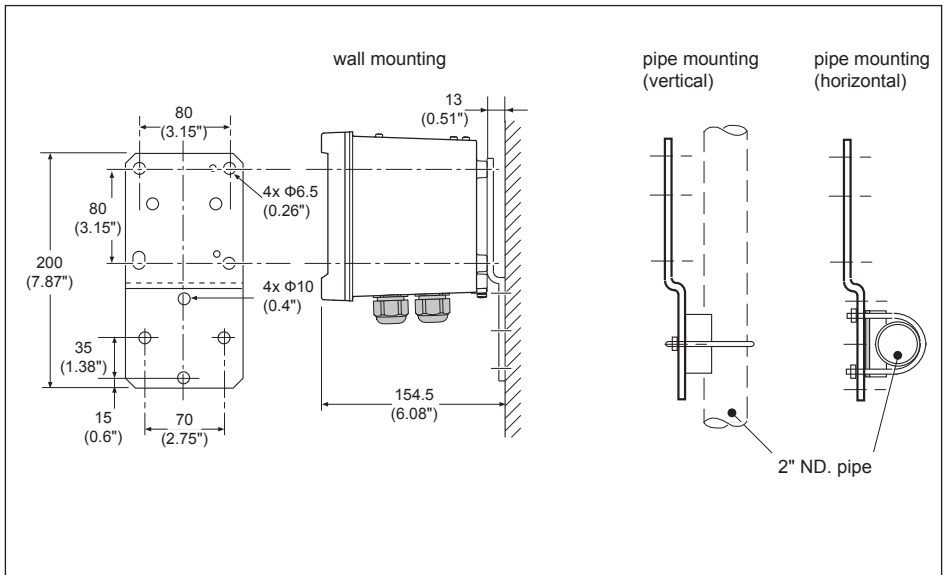

Figure 3-3. Option /U: wall and pipe mounting diagram
- Page 5 to 6, Some revision of Figure 3-1 and Figure 3-3.